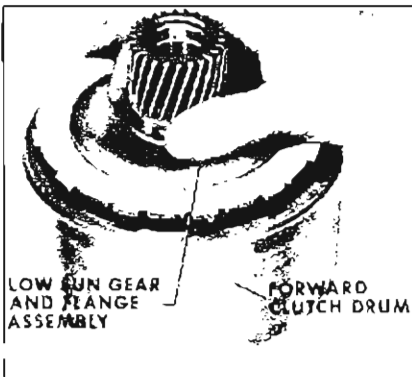

Figure 5-234
11. Install low sun gear and flange assembly. See Figure 5-234.